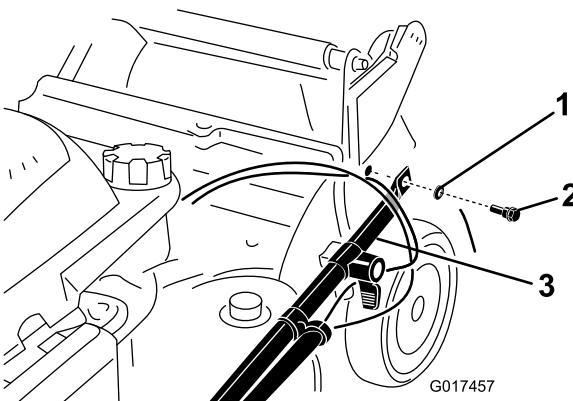

Figure 3
2. Attach the handle ends to the machine housing with 2 washers and 2 handle bolts (Figure 3), but do not tighten the handle bolts.
**Important:** Route the cables to the *outside* of the handle (Figure 3).